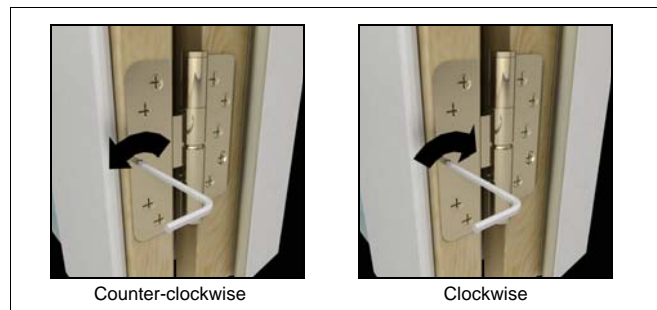

Figure 2
2. Make horizontal adjustment first. To adjust panel(s) horizontally away from jamb, turn horizontal adjustment screw counter-clockwise using 5/32" Allen wrench provided. To move panel toward jamb, turn Allen screw clockwise. See figure 2. Make vertical adjustments only after the horizontal adjustments are complete.